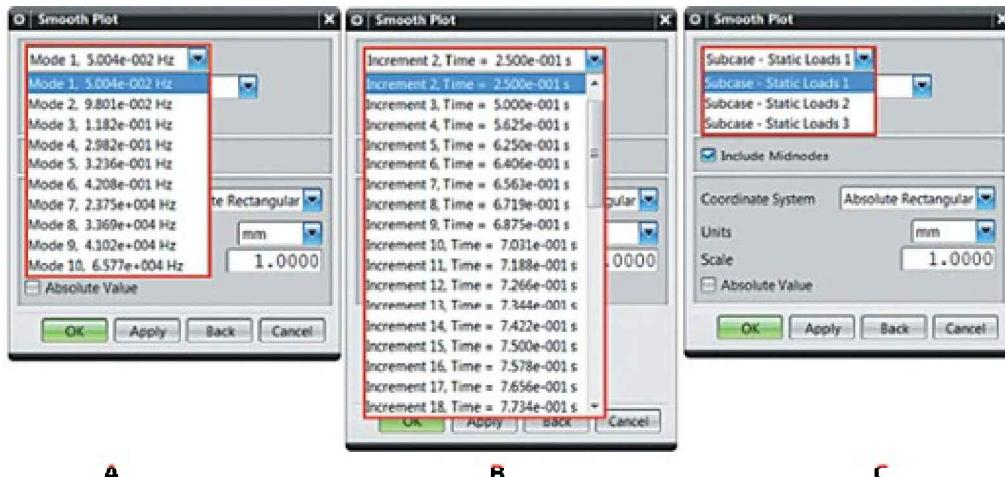

Figure 5.20. Displayed results selection dialog box
- When you solve natural frequency and mode problems, all produced results are listed in the first drop-down list of the displayed results selection dialog box. Each mode is represented by a name with the pattern *Mode <m>* containing a sequential number and a numerical value of natural frequency (Figure 5.20, A).
- For problems solved in several iterations, you can select *Increment <m>* with the number of the iteration of interest (Figure 5.20, B).
- You can also select results of a simulation case (Figure 5.20, C).